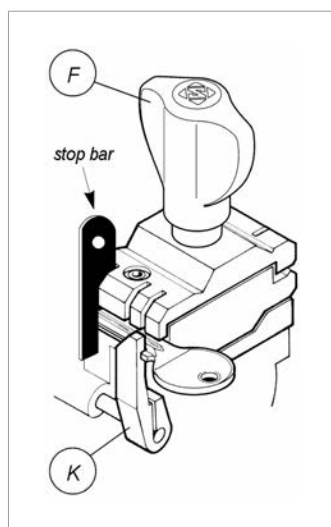
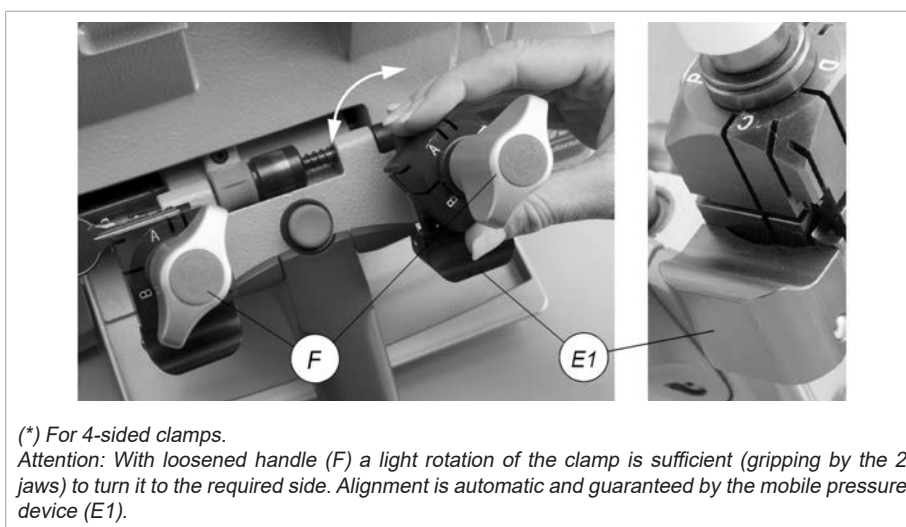

Fig. 18
Fig. 19
- b) the key stop butts against the gauge (K) or, in the absence of a stop, the tip of the key is against the stop bar (Fig. 18).
- c) close the jaws by turning the knobs (F).
- 1) Unscrew the knobs (F) by a couple of turns.
With loosened handle (F) a light rotation of the clamp is sufficient (gripping by the 2 jaws) to turn it to the required side. Alignment is automatic and guaranteed by the mobile pressure device (E1) (\*) (Fig. 19).